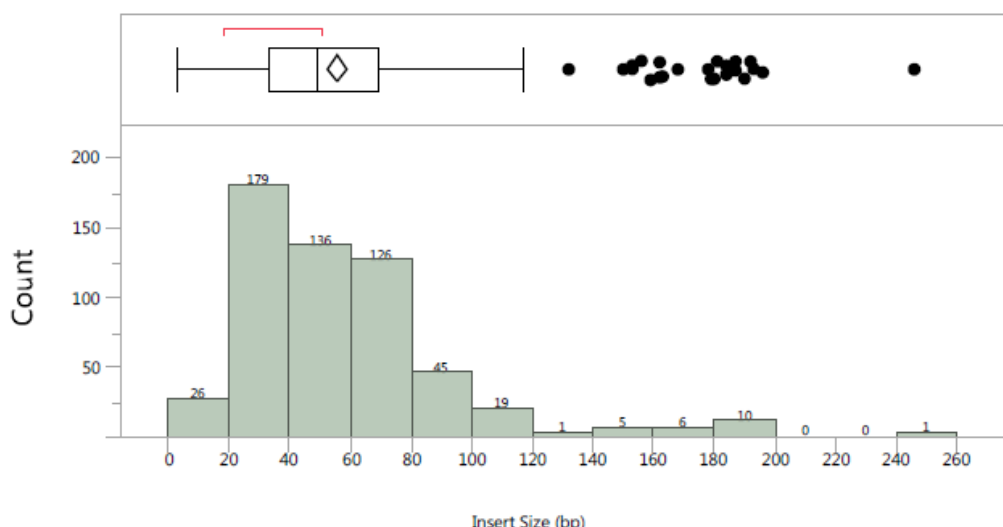

Figure 8: Distribution of ITD Insert Sizes by CDx (381 Positive Samples, N Insert Sizes = 554, Mean=55.6).
FLT3-ITD: The ITD detected population refers to the samples that harbor only ITD mutations based on sequencing. Among the 378 ITD samples, 64% showed only one (1) ITD variant with the remaining containing multiple ITD mutations. The ITD insert length ranged from 3 bp to 209 bp. Most samples with ITD mutations were of insert lengths less than 100 bp (>85%). Thirty-seven (37) of the ITD samples contained insert lengths greater than or equal to 100 bp. The size distribution of the ITDs is shown below in Figure 8.